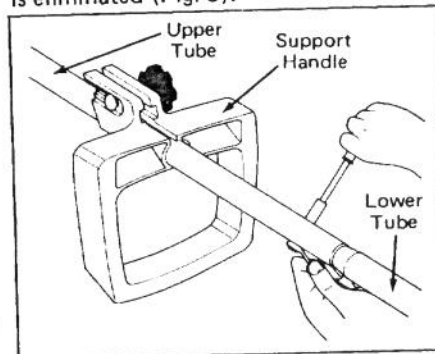

Figure 5
2. Secure with capscrew and locknut and tighten until all play between tubes is eliminated (Fig. 5).